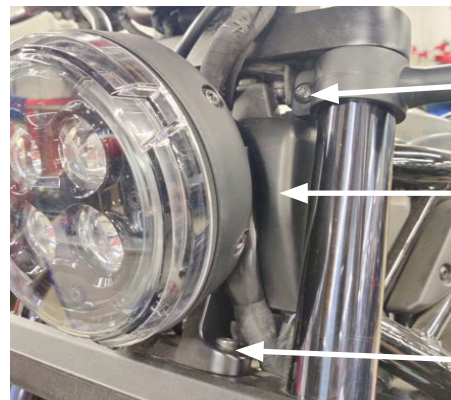

figure 6
4. Next, locate the assembly box connector (figure 6), located to the side of the headlight. Remove the mounting bolt and the Phillips screw, located on the back of assembly box (figure 7). Open the assembly box to expose a large grey connector, a small grey connector and a small black connector.
**NOTE: The headlight can be moved by removing the mounting bolts (figure 6) if more working room is desired.**